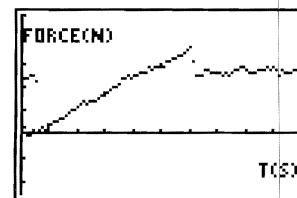

Figure 2:
- 4 A graph of force versus time is plotted on the calculator display as the data is collected. Your graph should look similar to the one shown in Figure 2. You may want to adjust Y_{max} and Y_{min} on the calculator to create an appropriate viewing window. (Press **WINDOW** on the calculator to access Y_{max} and Y_{min} .) When you are satisfied with your results, save the graph to a PIC variable to print later using TI-GRAPH LINK.